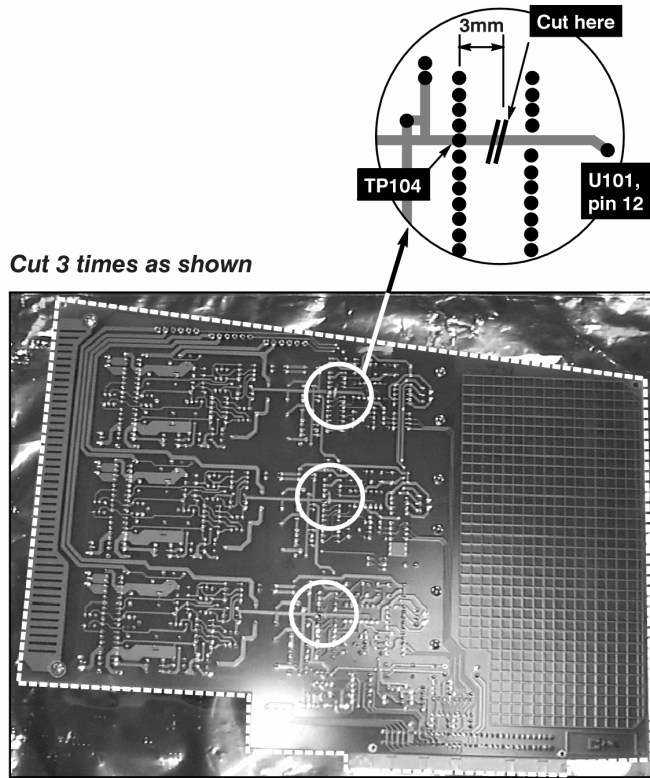

Figure 1
2. On the solder side of the FCM, locate the trace which runs between U101 pin 12 and TP104. Note that if TP104 is populated with a test point, it must be unsoldered and removed. Cut the trace approximately 3mm from TP104. **Be careful not to cut any of the adjacent traces.** See Figure 1.
3. On the solder side of the FCM, locate the trace which runs between U201 pin 12 and TP204. Note that if TP204 is populated with a test point, it must be unsoldered and removed. Cut the trace approximately 3mm from TP204. **Be careful not to cut any of the adjacent traces.** See Figure 1.
4. On the solder side of the FCM, locate the trace which runs between U301 pin 12 and TP304. Note that if TP304 is populated with a test point, it must be unsoldered and removed. Cut the trace approximately 3mm from TP304. **Be careful not to cut any of the adjacent traces.** See Figure 1.